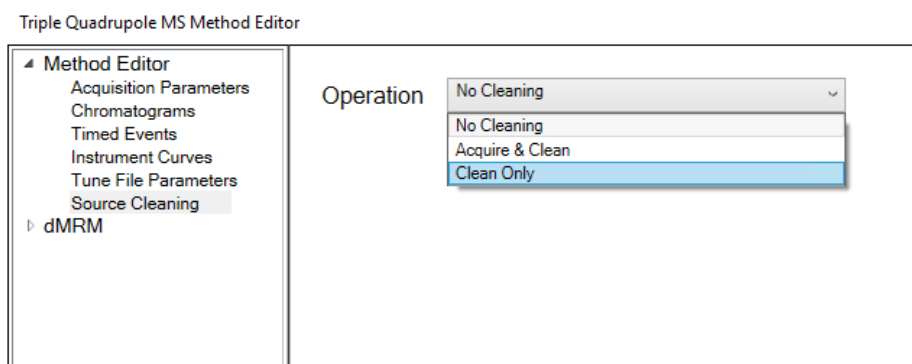

Figure 35. TQ MS Method Editor Source Cleaning panel
- 3 Select a mode from the **Operation** dropdown menu. (See Figure 35.)